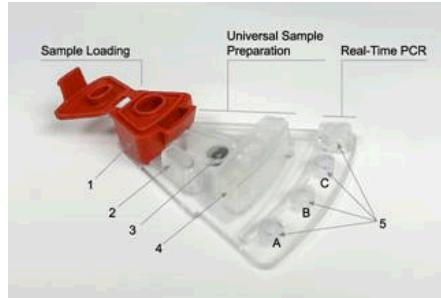

Figure 1. Top View of a PIE
The Revogene automates PrC homogenization, dilution, lysis, DNA amplification and detection of the amplified PCR product. User intervention is only required to transfer sample buffer from the Sample Buffer Tube (SBT) into the PIE and insert the PIE into the Revogene carousel. Each Revogene Check PIE is a fully integrated closed device into which sample buffer is dispensed and processed through different microfluidic chambers and channels, which allows for PrC processing (i.e. homogenization, dilution and lysis) and subsequent real-time PCR steps (**Figure 1**). The sample buffer is transferred by centrifugation from one chamber to the next in sequence.
6. Discharge completely the SB volume into the sample loading chamber of the PIE (Figure 1). Make sure not to touch the outer edges or the bottom of the sample loading chamber with the DTT.